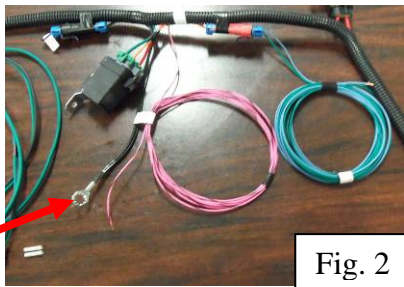

Fig. 2
3. Attach the eyelet(s) with the two black wires to a ground (Fig. 2).